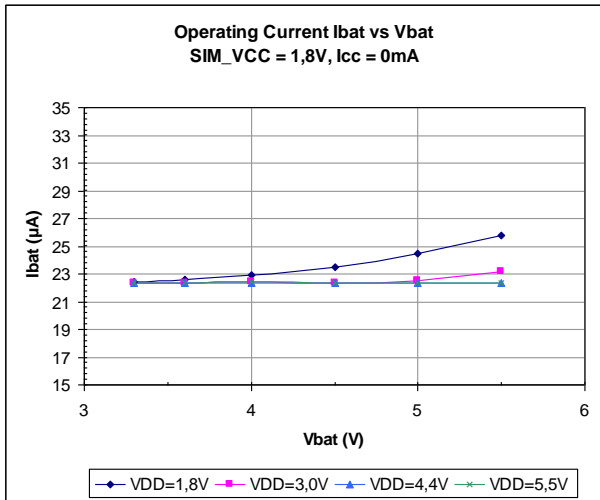

Figure 2: Typical Operating Current I_{bat} vs. V_{BAT} / $SIM_V_{CC} = 3\text{ V}$, $I_{CC} = 0\text{ mA}$ & $Temp = 25^\circ\text{C}$
1. Operating and shutdown currents both on V_{DD} and V_{BAT}. See Figures 2 and 3